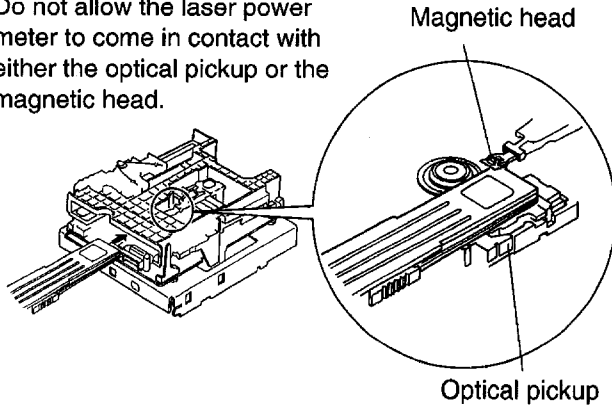
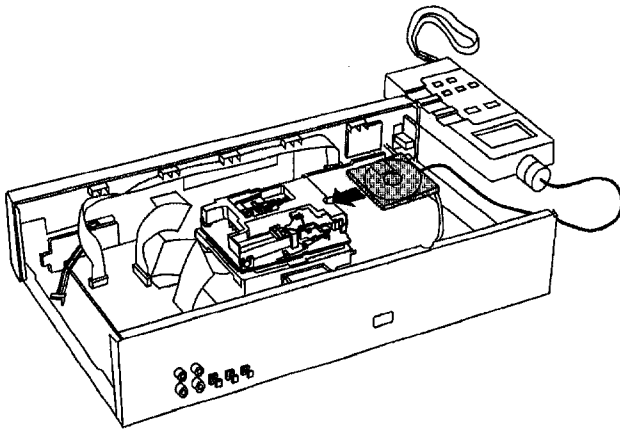

Fig. 17-3.
Fig. 17-4.
3. Position the sensor of the laser power meter directly above the optical pickup. Refer to Fig. 17-3. Or load the cartridge of the laser power meter into the MD mechanism. Refer to Fig. 17-4.